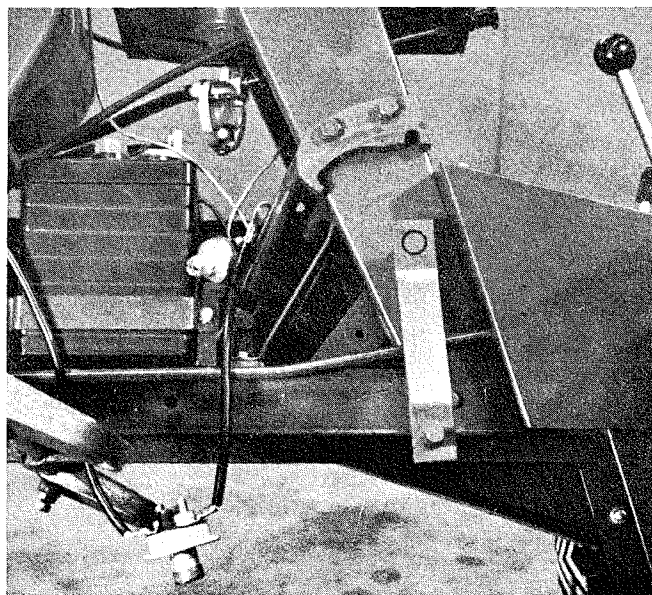

Figure 1
2. Lean tractor over and remove lift lever by knocking out roll pin (4231). After lever is removed, install lift link (4818) using same roll pin which was previously knocked out. See Figure 1.